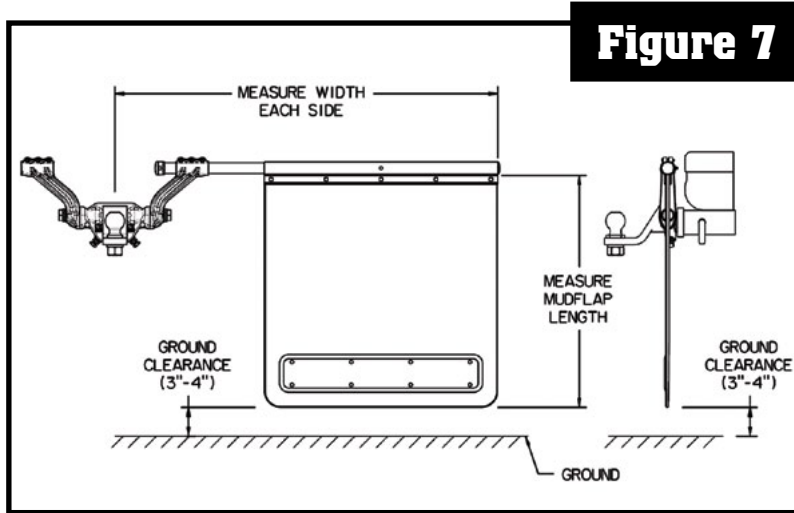

Figure 7
8. Make sure SUPPORT RODS are level on both sides and measure the distance from the bottom of FLAP SUPPORT ROD to the ground. Subtract the desired ground clearance (3" - 4" recommended or 75 mm - 100 mm). *Figure 7.*